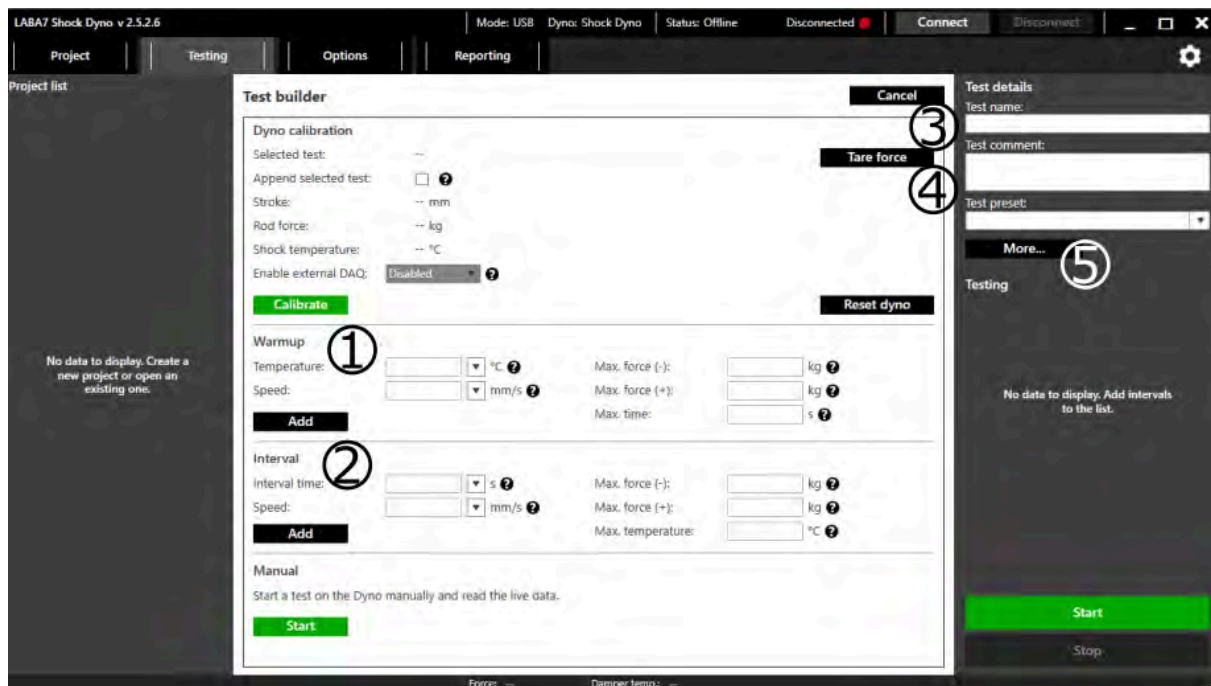

Figure 23
- Warmup – used to warm the damper to the working temperature (Figure 23 – Step 1).
- Interval – actual damper testing intervals, which will be used to test a damper (Figure 23 – Step 2).
1. Press **More...** (Figure 23 - step 5).
1. Enter test name (Figure 23 – step 3).
2. Enter test comment (Figure 23 – step 4).